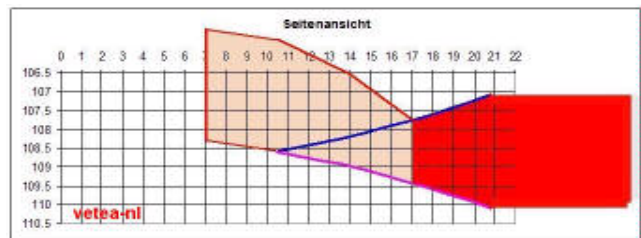

Figure 6: compression and relaxation at the ingoing nip of the knives.
Figure 6 is showing the virtual progress of compression. The web is running from right to left.
- the fibre orientation in the web itself, and on the direction of the cut, related to the fibre orientation. See Figures 6 and 7.